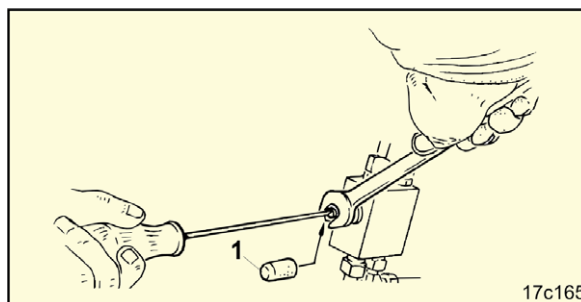

Fig. 136
The pressure relief valve (Fig. 136) on the fan blower hydraulic motor.
1. Remove the protective cap (Fig. 136/1).